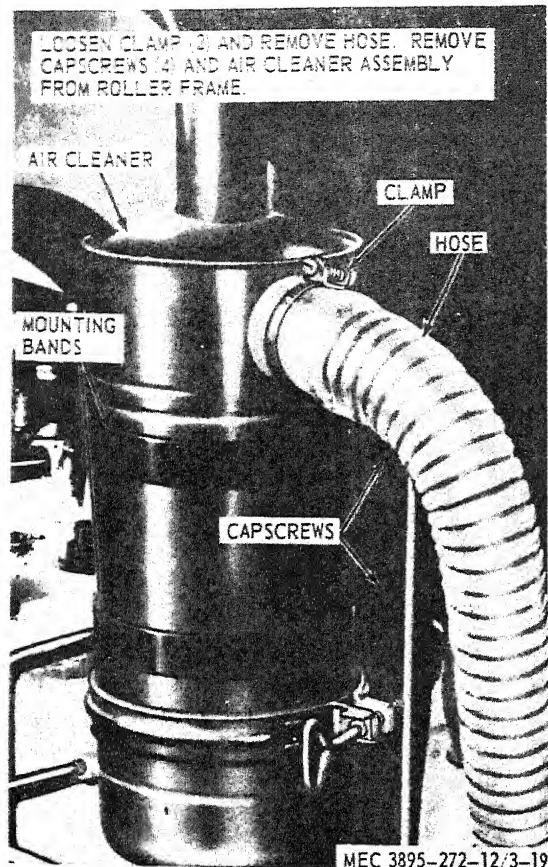

Figure 3-19. Air cleaner, removal and installation.
*a. Removal.* Remove the air cleaner from the roller as instructed on figure 3-19.
- (1) Install the two bands (5) on the body (1).
- (2) Install the inner oil cup (2), outer oil cup (3), and the clamp (4) on the body (1).
*e. Installation.* Install the air cleaner on the roller in reverse of the instructions on figure 3-19.